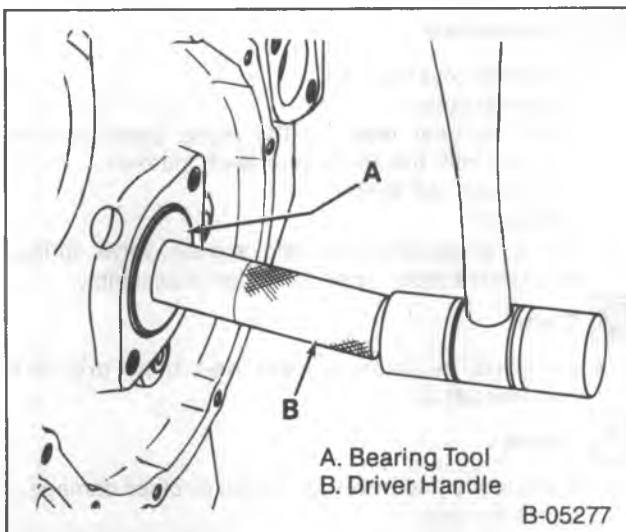

Figure 18—Replacing the Outer Camshaft Bearings
3. Front camshaft bearing. Use J 6098-01 and J 6098-10 (figure 18).
4. Rear camshaft bearing, as described in step 3. Use the driver handle and bearing tool J 6098-12 (figure 18).
1. Rear camshaft bearing. Drive the bearing into place using the driver handle and J 6098-12 (figure 18).
2. Front camshaft bearing. Drive the bearing into place with the driver handle and J 6098-11 (figure 18).